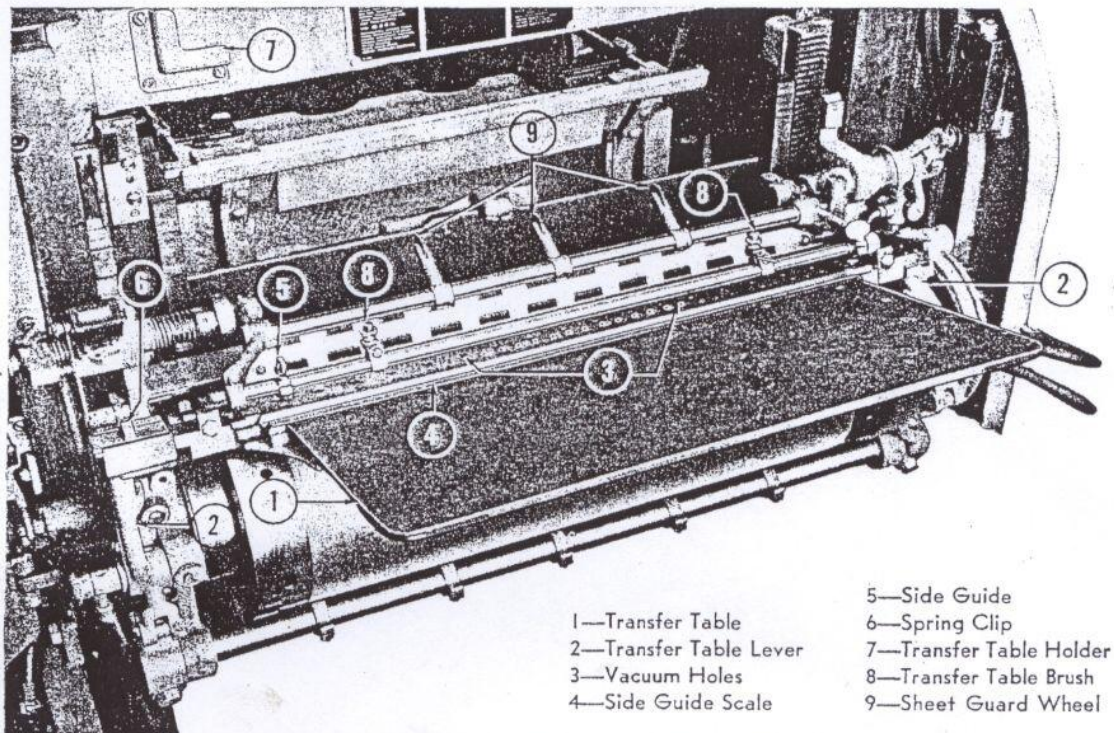

Figure 4—Transfer Table and Side Guide
b. TRANSFER TABLE AND SIDE GUIDE. (See figure 4.)—The transfer table (1), supported by two levers (2) attached to the cylinder journal cap, receives a sheet from the feeder separator shoes and transfers it to the impression cylinder. During the travel of the transfer table toward the cylinder, the sheet is held on the table by means of suction applied through a series of holes (3) in the table. A